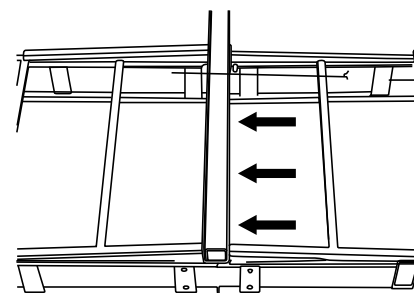

Fig. 2
- Place the square Central Support Tube between the two halves of the cargo basket so that the three holes on the Basket Halves and the Central Support Tube line up with each other. Make sure that the protruding portion of the central support tube is on the hitch side of the basket, the side without red reflector stickers. **(Fig. 2)**
- Insert a carriage bolt through each of the three holes in the Basket Halves and the Central Support Tube and thread the corresponding nuts & washers onto the bolts. **(Fig. 2)**